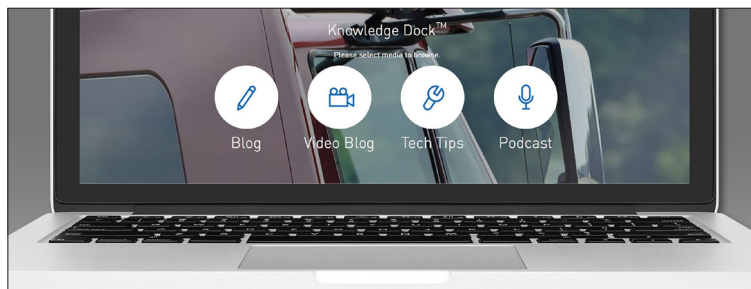

**Figure 8 – Running Clearance Check**
9. Re-check the running clearance. (See Figure 8.) Readjust if necessary.
10. Install the cap (7).